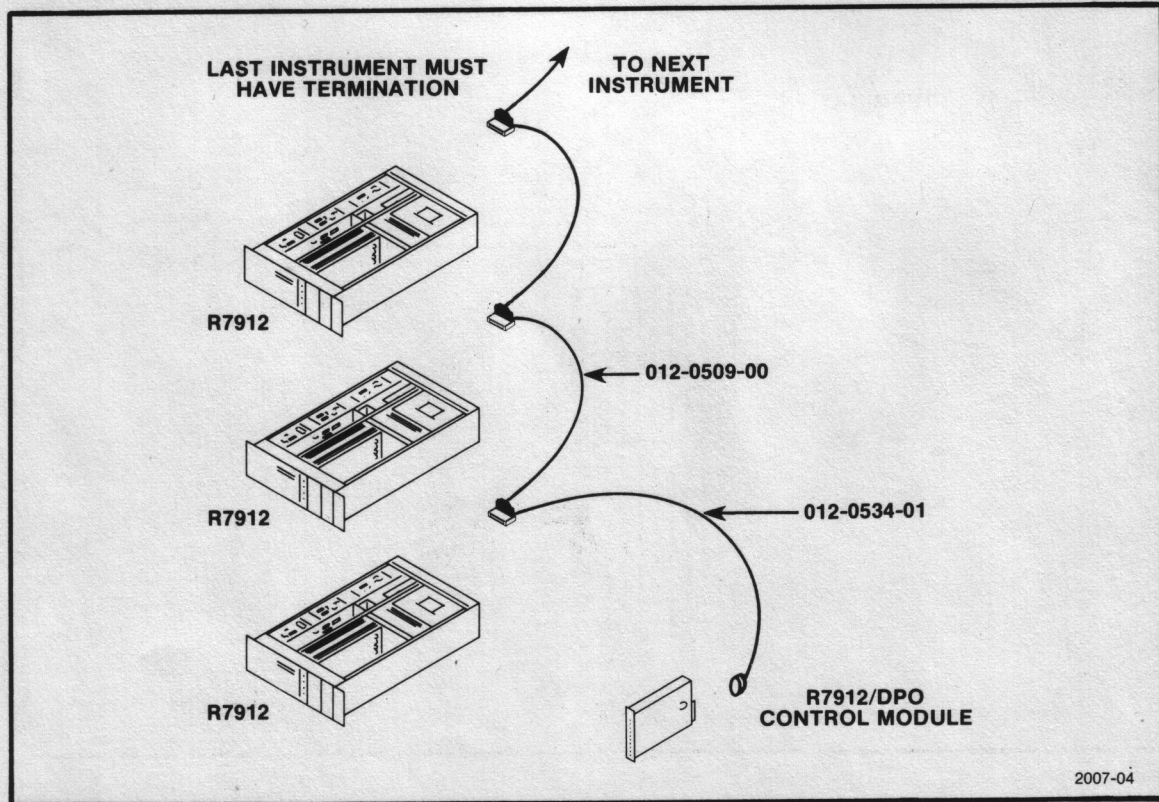

Fig. 2-4. WP2052 CP Bus cabling.
5. Connect the other end of this 4 foot cable to the DIGITAL OUT connector on the next R7912. Continue cabling with 4 foot CP Bus cables as outlined in steps 3 through 5 until all R7912's are connected in a chain. See Fig. 2-4.